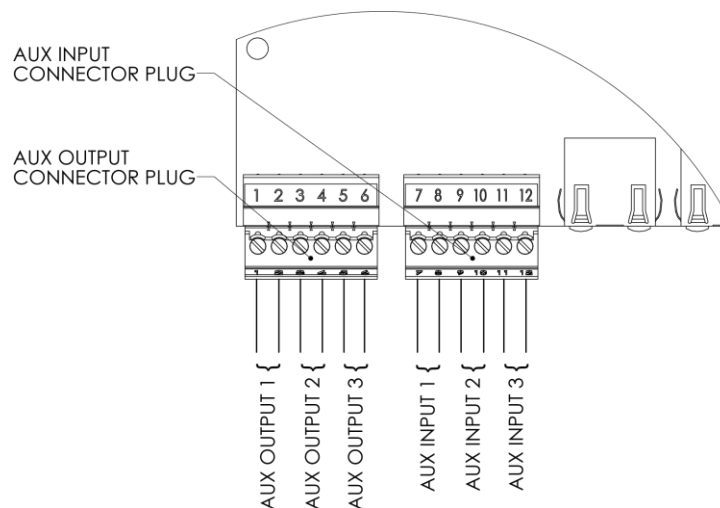

Figure 6 - Auxiliary Input/Output and Power connectors
1. The **VOIP-500 Series Phone** has three (3) Auxiliary Inputs (dry contact, 10 mA @ 8 VDC) and three (3) Auxiliary Outputs (dry contact, 120 mA @ 60 VAC/DC). Auxiliary Outputs allow peripheral equipment such as strobe lights, PTZ cameras, door entry systems, etc. to be activated when the push button is pressed.
2. Two (2) removable 6-pin connector plugs are provided for the auxiliary input and output as shown in the **Figure 6**.